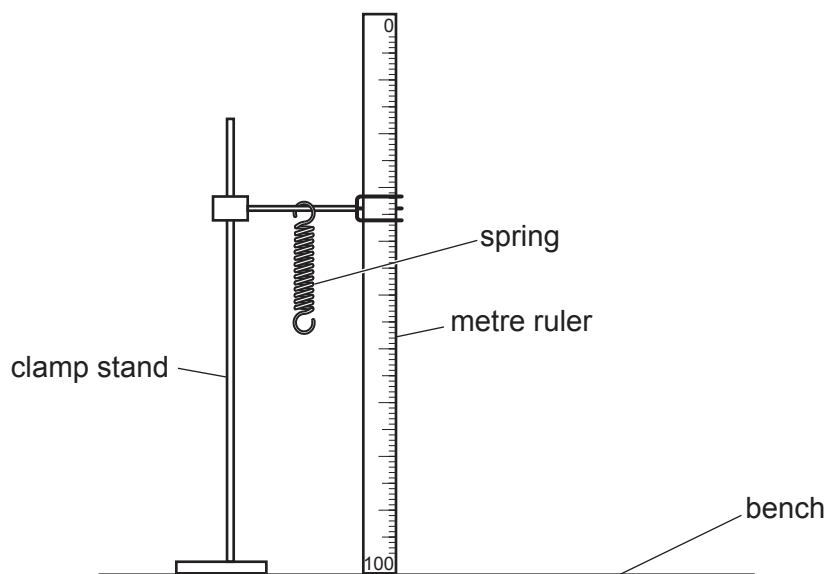

Fig. 1.1
2. The apparatus is to be set up for the candidates as shown in Fig. 1.1. The spring is to be suspended from the clamp, supported by a boss and stand. The spring must be sufficiently high above the laboratory bench so that when the 5.0 N load is suspended from the spring, the bottom of the load is above the surface of the bench.
Check that the apparatus is set up ready for the next candidate, as shown in Fig. 1.1, with the spring near to the metre ruler.